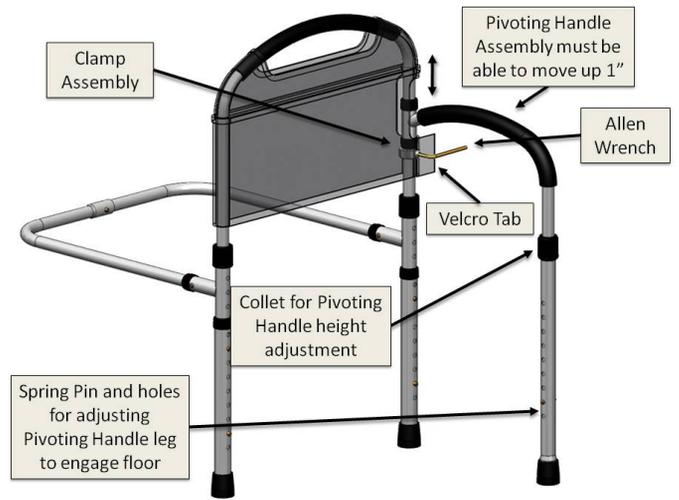

FIGURE 8
As shown in Figure 8, the height of the Pivoting Handle can be adjusted up or down by loosening the Collet on the Pivoting Handle assembly by rotating counter clockwise. Depress the spring pin so the handle can move up or down to the desired height. After adjusting the Pivoting Handle to the desired height, tighten Collets by rotating clockwise.
10. As shown in Figure 8, open the Velcro tab on the side of the sewn organizer.